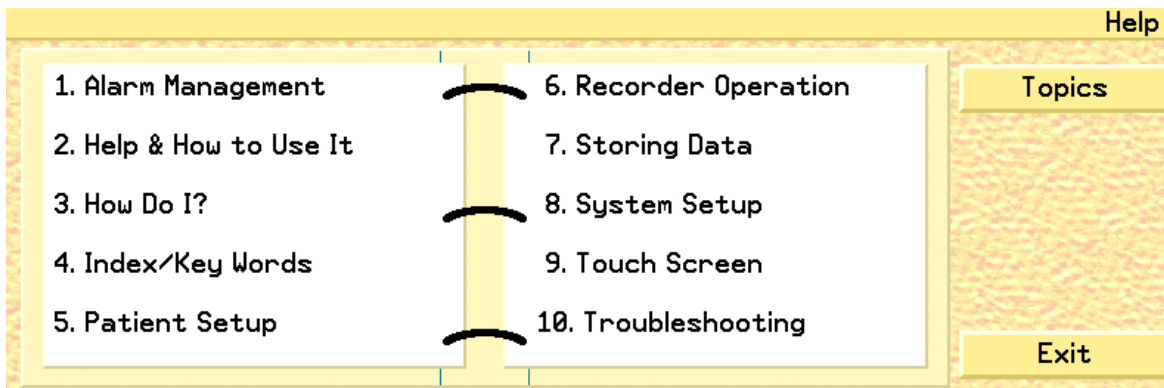

Fig. 1. Help Screen
1. Press **Help** on the Main screen to display the Help screen (fig. 1).